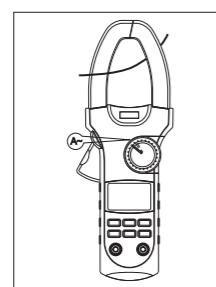

Figure 10
**H. Measuring AC Current (See Figure 10)**